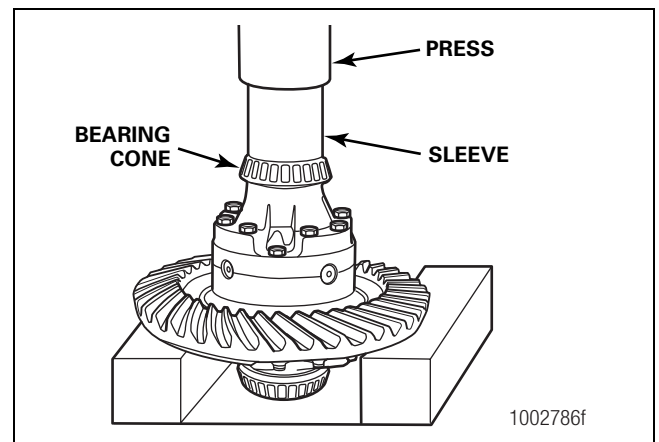

**Figure 5.29**
- Place a torque wrench onto the nut of the tool and rotate the differential gears. As the differential gears rotate, read the value indicated on the torque wrench. Figure 5.29.